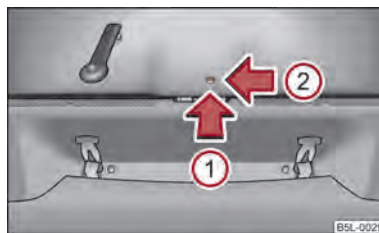

Fig. 16 Emergency unlocking of the boot lid
- Insert a screwdriver or similar tool into the opening in the trim in the direction of arrow **(1)** $\Rightarrow$ fig. 16 to the stop.